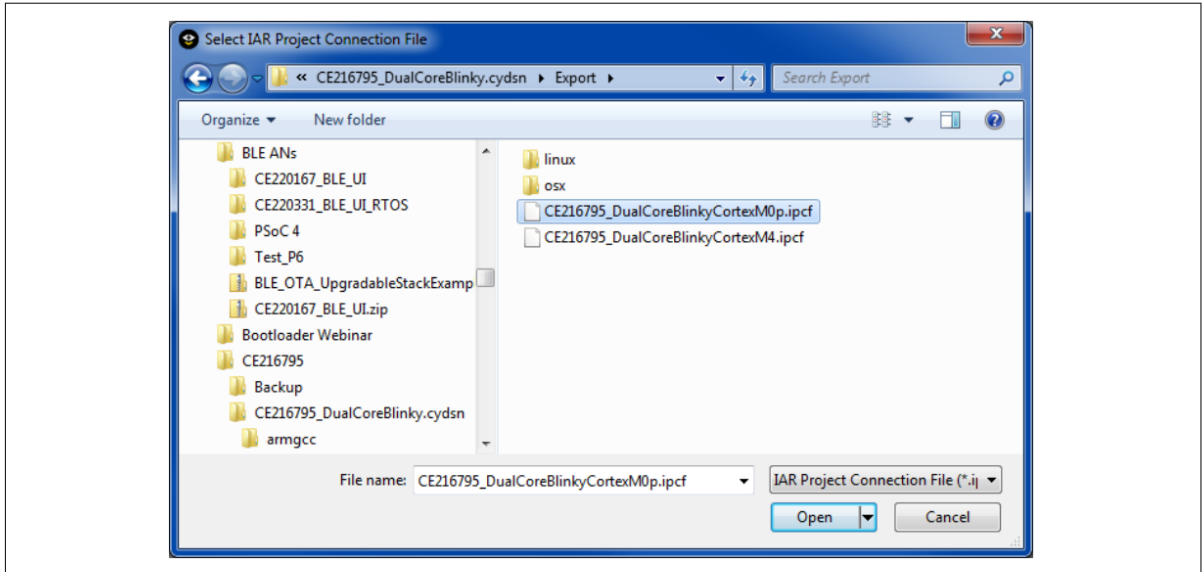

Figure 33 Select IAR project connection file from PSoC™ Creator project export folder
Select **Tools > Options** and make sure that **Enable project connections** is checked. Click **OK**. Then select **Project > Add Project Connection...**. In the next dialog, select **Connect using IAR Project Connection**, and click **OK**. Then select the `...CortexM0p.ipcf` file, as Figure 33 shows. Click **OK**, and several folders and files are added to the project in the Workspace window
- Select the ...CortexM4.ipcf file; see Figure 33